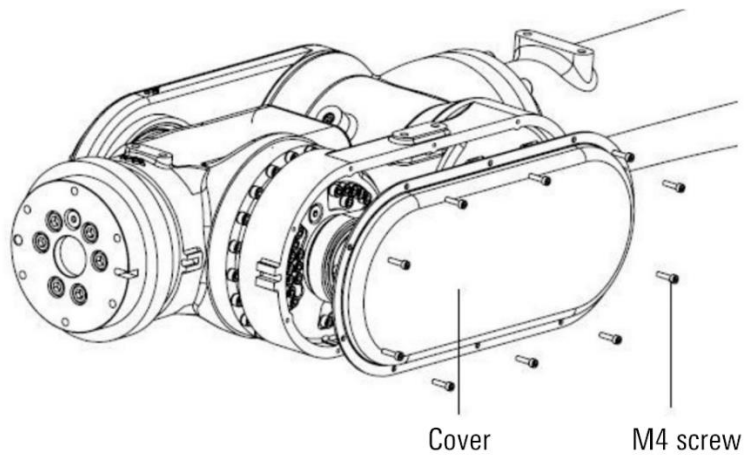

Figure 12-16 Remove the J5 axis cover plate
- Step3. Remove the M4 screws from the J5 axis cover plate, as shown in Figure 12-16.